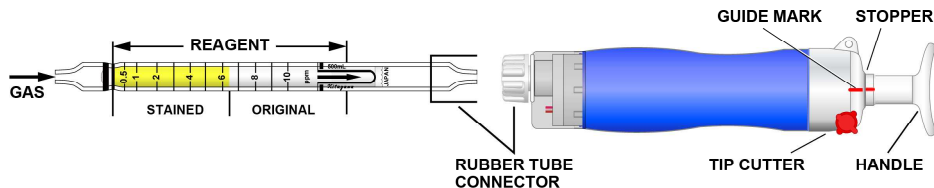

Fig.1
- ② Insert the detector tube into the aspirating pump securely as shown in Fig.1. (Arrow mark shall point to the pump.)
- ③ Align the guide marks on the shaft and stopper of the aspirating pump.
- ④ Pull the pump handle at a full stroke until it locks and wait for 1.5 minutes or until the completion of sampling is confirmed with the flow indicator of the pump (See descriptions about the flow indicator in the instruction manual of the pump).
- ⑤ Push back the handle without removing the detector tube from the rubber tube connector so that air in the pump will be discharged perfectly.
- ⑥ Then repeat the steps ③~⑤ another four times.
- ⑦ On completion of sampling, read the scale at the maximum point of the stained layer.
- ① Temperature; The scale is calibrated based on the temperature of 20 °C (68°F). Readings obtained under 15 °C (59°F) circumstances should be corrected with the following temperature correction table.